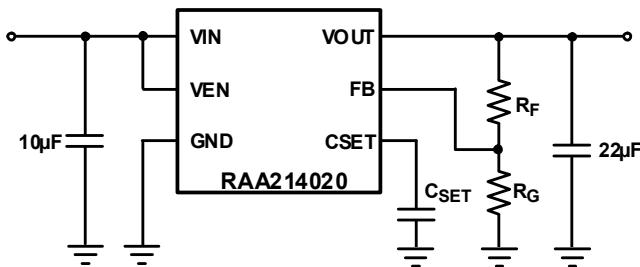

Figure 1. RAA214020 Simplified Application Schematic
The RAA214020 output voltage (V_{OUT}) can be programmed down to 0.9V and up to 5.5V- V_{DO} using the feedback (FB) resistors, R_F and R_G , as shown in Figure 1.